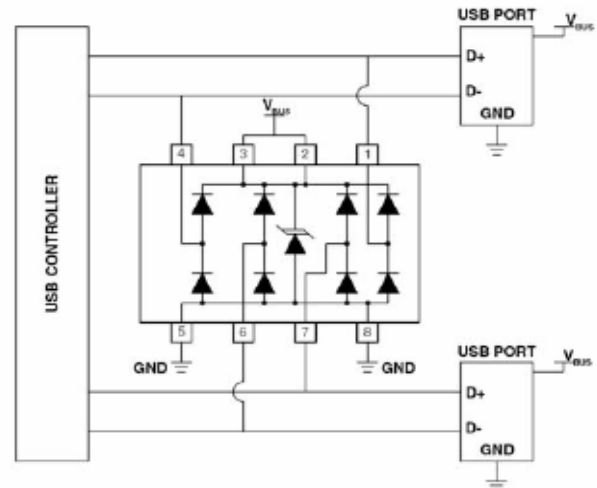

Figure 1. Typical Differential-Mode USB Protection
DIFFERENTIAL-MODE CONFIGURATION (Figure 1)
Ideal for use in USB applications, the SRDA3.3-4 Series provides up to four (4) lines of protection in a differential-mode configuration as depicted in Figure 1.